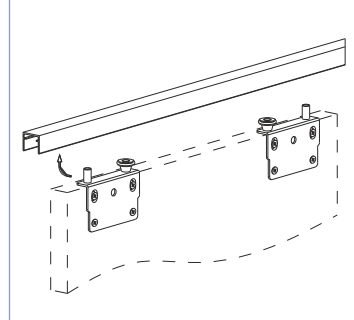
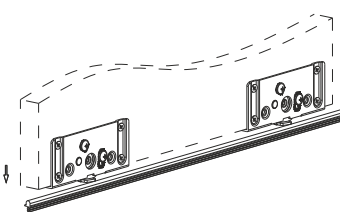

Fig. 6
Fig. 7
6. Engage the top side into the top track as shown in Fig. 6 & then rest the bottom guide into the Dome track as shown in Fig.7.